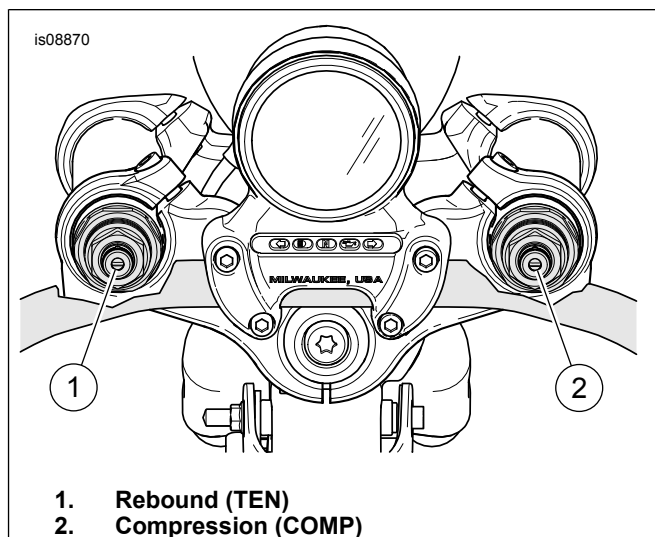

Figure 8. Fork Damping Adjustments
- See Figure 8. Turn rebound damping adjuster clockwise until it stops. This is the maximum rebound damping setting.
- See Figure 8. Turn compression damping adjuster clockwise until it stops. This is the maximum compression damping setting.